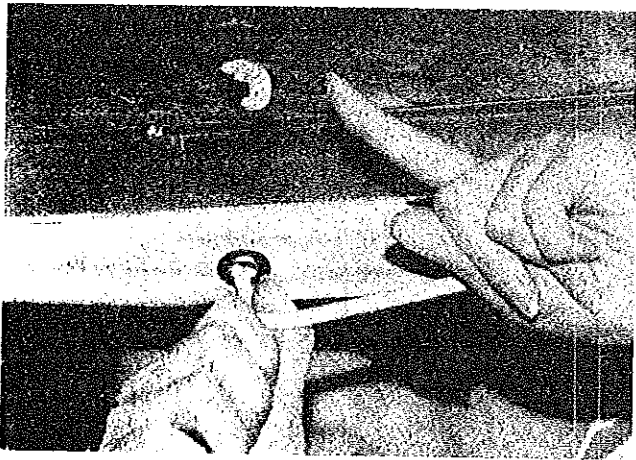

FIGURE 16
19. Pull the tent at the bottom over the bed edge and attach the exposed stretch cords to the nearest hooks on the underside of the bed. See Figure 16. Repeat for other bed end. Be certain to slide the stiffened tent fabric sections under the bed corners between the bed bottom and body rail top. These stiffened corners will prevent the entrance of insects drawn by the folding trailer interior lighting.